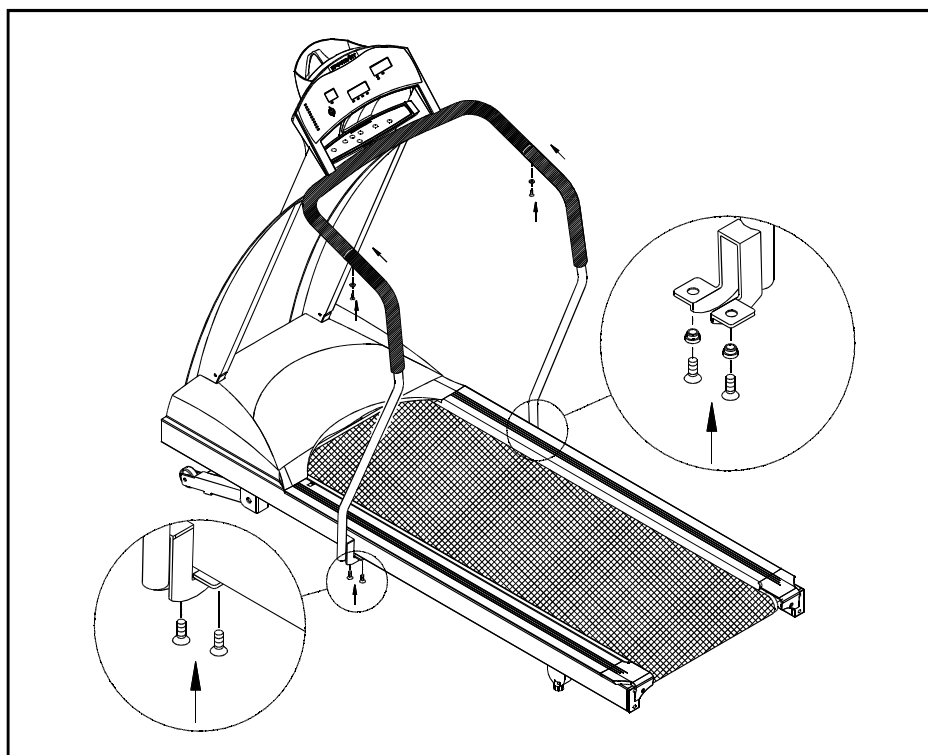

Fig.7
9. Insert the two handrails into the handlebars and then fasten the screws provided. Lastly secure the handrail clamp by fastening the screws (see Fig. 7).
Please note: The screws to the handrail clamp (Fig.7) are special provided by manufacturer. Do not attempt to substitute any other screws. Any questions, please contact your dealer.